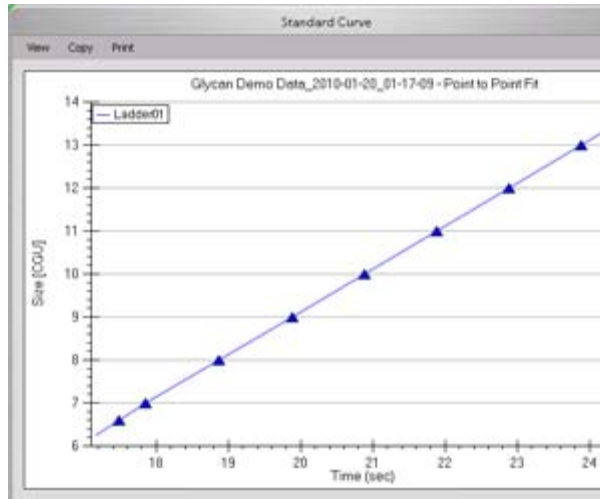

Figure 15. Standard Curve - Glycan
- 5 The ladder is analyzed (see “Ladder Analysis” on page 271) and a standard curve of migration time versus mobility is plotted from the ladder by interpolation between the individual glycan/migration points. The standard curve derived from the data of the ladder well should resemble Figure 15.